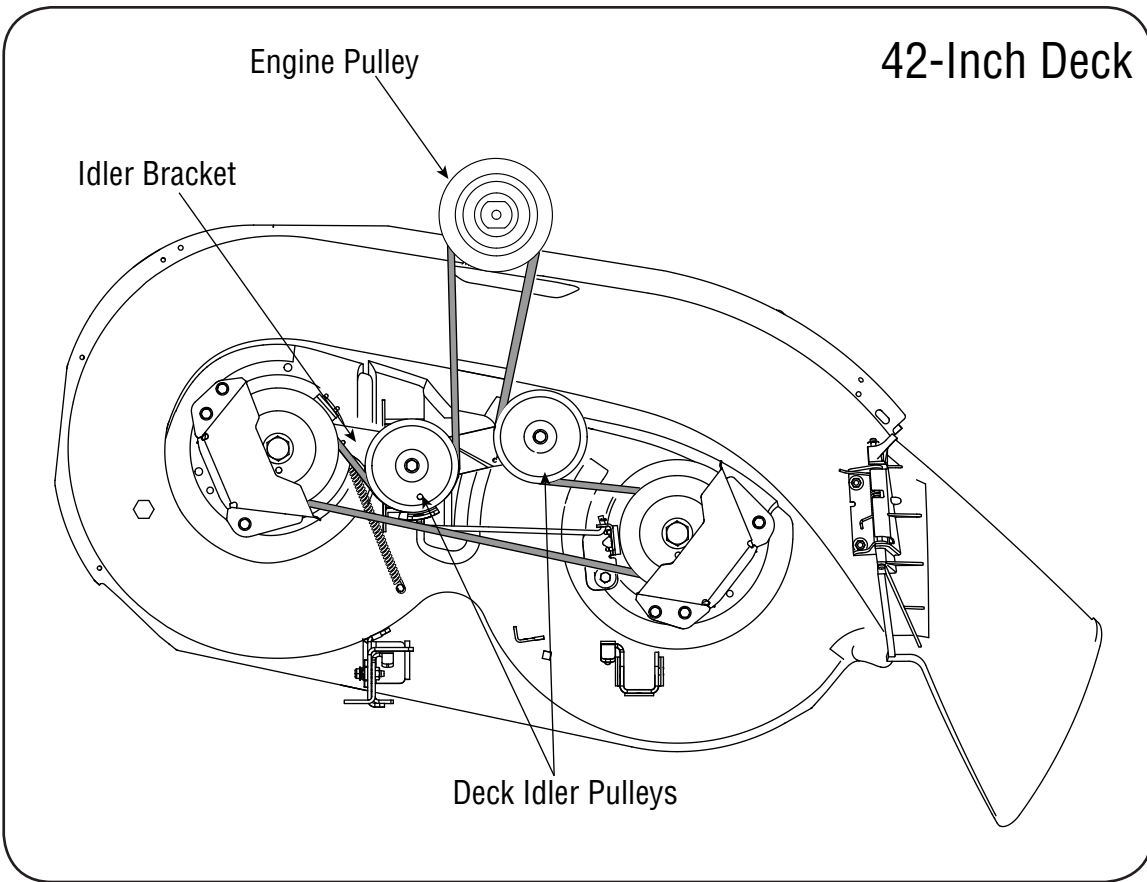

Figure 21
8. Route the new belt as shown in and Figure 21.